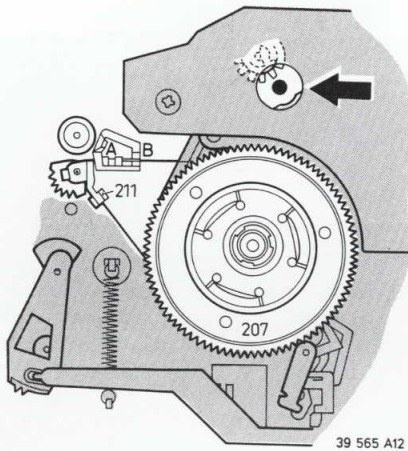

Fig. 3-1-10
- Unlock brake belt block with tweezers and push from position A to position B (brake belt lies loosely around reel disc). (Fig. 3-1-10).